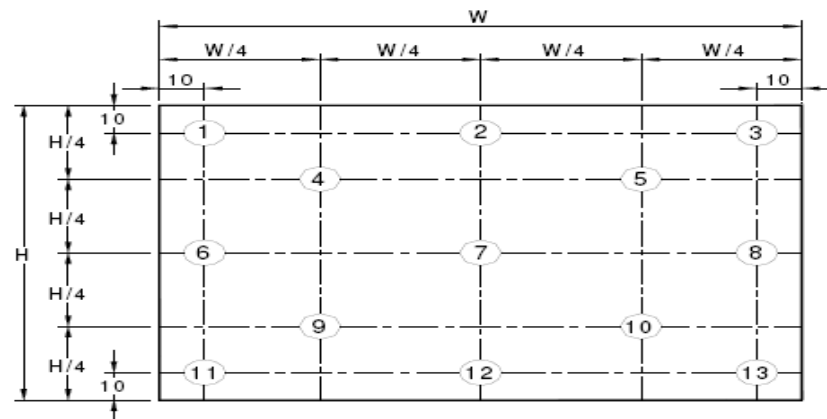

Fig8-1 Measuring point
Measure the point-7 as figure 8-1
*3) Definition of luminance: Measure white luminance on the 5 points as figure 8-1
*4) Definition of Luminance Uniformity: Measure white luminance on the point 4、5、7、9、10 as figure 8-1
*5) Definition of Luminance Uniformity : Measure white luminance on the point 1~13 as figure 8-1